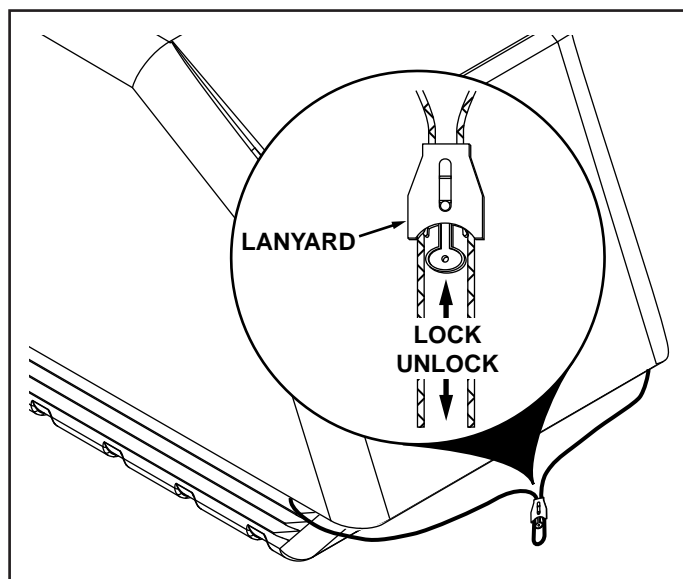

FIGURE 25
- Allow the rope to hang loosely behind the rear of the cart. Use the lanyard to tighten the rope until it firmly secures the cart cover to the cart. See figure 25.
- Ensure lanyard is locked to keep rope in place. See figure 25.